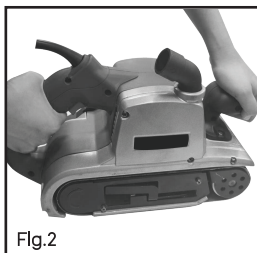

Fig.2
3. HAND GRIP AREAS (See Fig. 2)